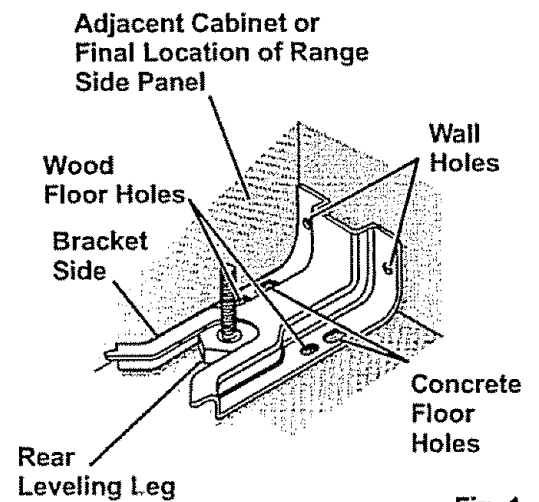

Fig. 1
- Use the bracket as a template and mark 2 hole positions on the wall and 2 hole positions on the floor. Use either the wood or concrete floor set of positions, depending on your floor type. See **Fig. 1**.
- B. Check if the **ANTI-TIP** bracket is installed and engaged properly. Remove the kick panel or storage drawer and inspect the **REAR LEVELING LEG**. Make sure it fits securely into the slot. See Fig. 1.